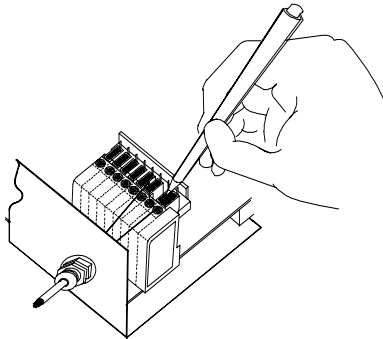

Figure 8 - System Cable Connections
- Using a device such as a screwdriver, push down on the lever directly next to the clamp (see Figure 8).